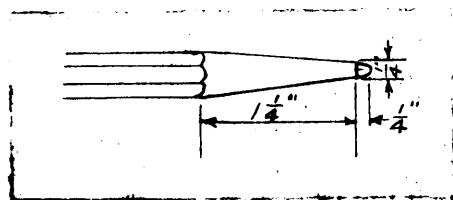

Figure 2.
2. Heat opposite end back about  $1\frac{1}{2}$ " to a cherry red, and draw out to the desired length. As a guide, see (Figure 2.) which is drawn out to  $\frac{1}{4}$ " thickness and  $\frac{1}{4}$  bevel. The dimensions will depend entirely upon the use to be made of the stock and the size of the stock used. In drawing out, draw to a square first, then octagonally, then round as shown in job on "Drawing Out Metal." The thickness of the stock at the bevel may be  $\frac{1}{4}$ ",  $\frac{1}{2}$ ",  $\frac{1}{8}$ " depending upon the use. Make sure the punch is perfectly straight and symmetrical. Let the punch cool gradually.